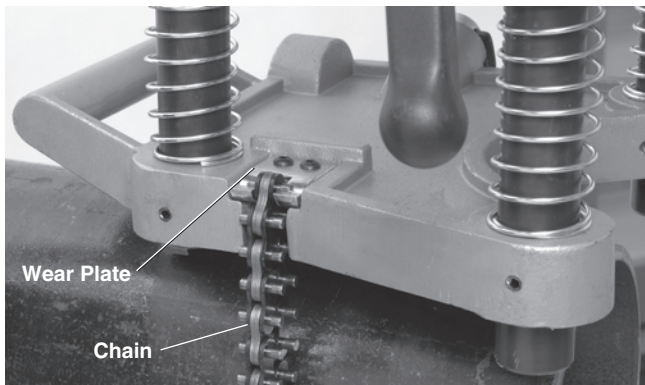

Figure 5 – Hooking the HC-450 Chain
3. Always keep at least one hand on the Hole Cutting Tool to stabilize and guide it. Grasp the end of the chain and pull it snugly around the pipe. Hook the closest chain pin on the wear plate and firmly tighten the swivel handle to hold the Hole Cutting Tool to the pipe. (See Figure 5)